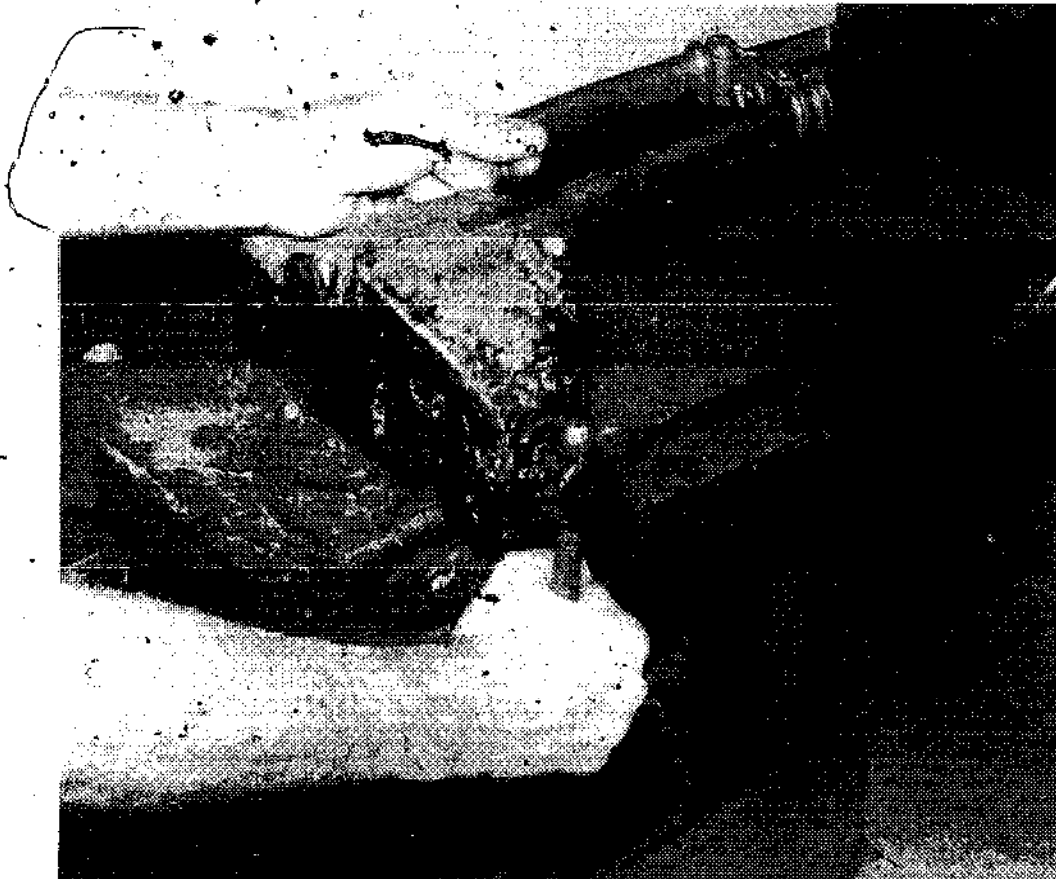

Fig. 6-4. Flattening the fork end in vise.
**Flattening Tubing.** One way to do this is in the jaws of a vise as shown in Fig. 6-4.